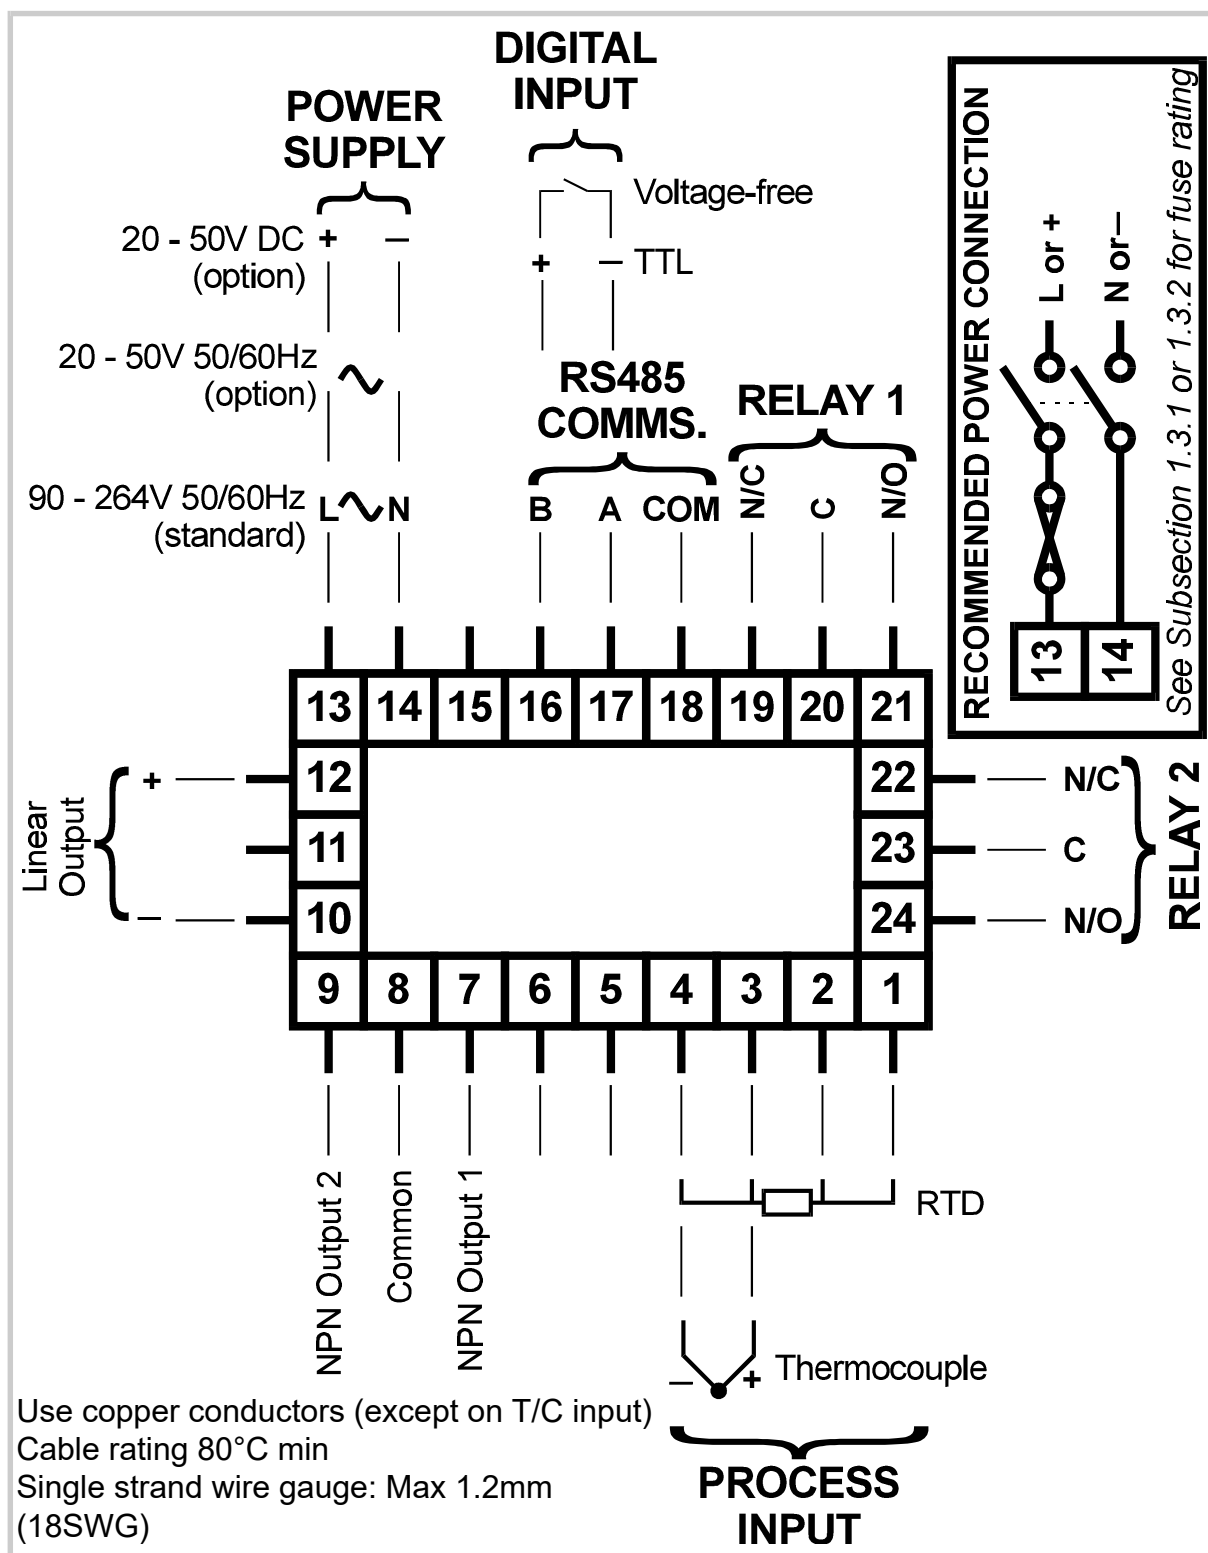

Figure 1-4 Rear Terminal Connections
The rear terminal connections are shown in Figure 1-4.
**CAUTION:** This equipment is designed for installation in an enclosure which provides adequate protection against electric shock. Local regulations regarding electrical installation should be rigidly observed. Consideration should be given to prevention of access to the power terminations by unauthorised personnel. Power should be connected via a two-pole isolating switch (preferably situated near to the equipment) and a 1A fuse, as shown in Figure 1-4.
Power should be connected via a two-pole isolating switch and a 315mA slow-blow (anti-surge Type T) fuse. With this option fitted, the Indicator will accept 20 - 50V AC @ 50/60Hz or 20 - 50V DC in the polarity shown in Figure 1-4.